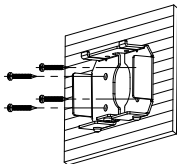
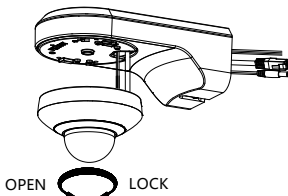

Figure 2-23 Install the Bracket Base
Figure 2-24 Install the Camera
1. Rotate the base plate counterclockwise to separate it from the PTZ camera, as shown in Figure 2-23 and Figure 2-24.